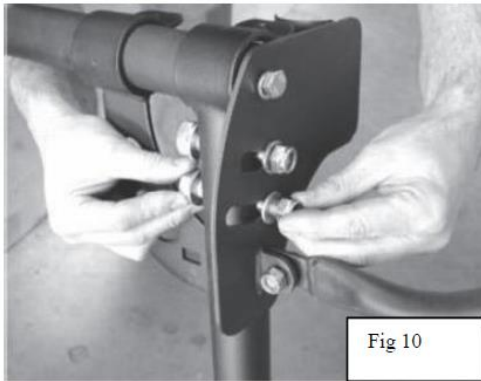

Fig 10
3. Attach the Rear Upright to the Quick Disconnect Mounting plate using (2) M16 x 70mm (1) M12 and (1) M 16 flat washers and (2) locknuts. (Fig 10)